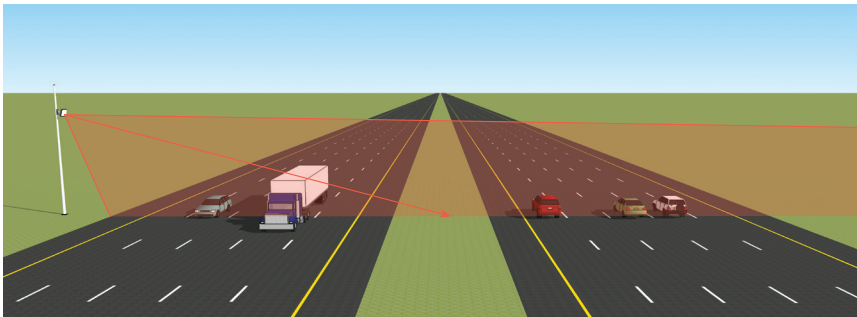

Figure 1.4 - Up-and-down Positioning
- 1 Tilt the sensor down so that the front is aimed at the center of the detection area (see Figure 1.4).